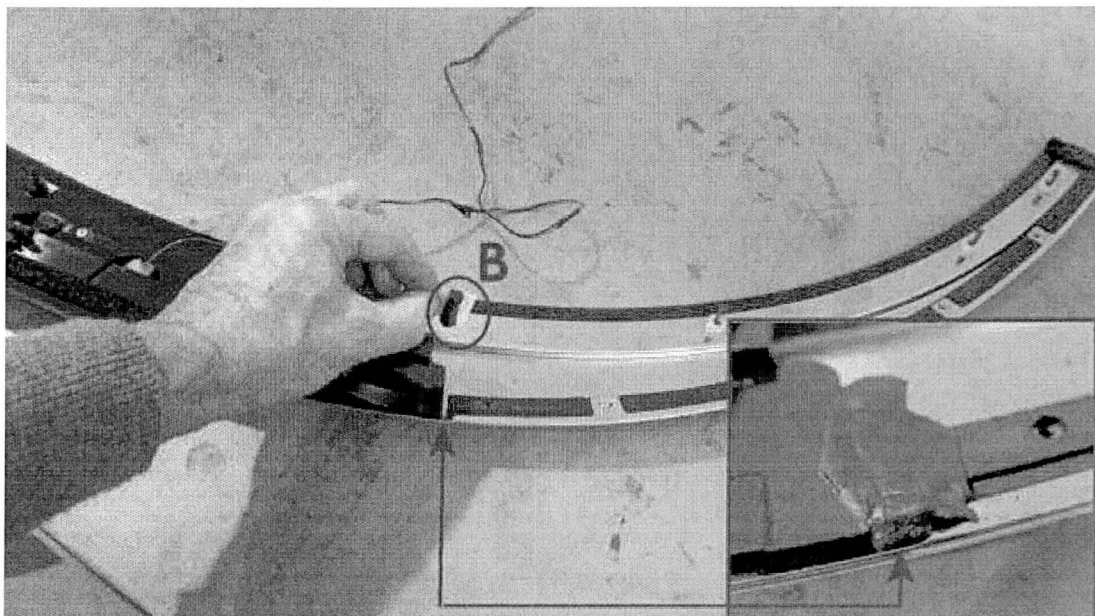

Figure 3
4. Cut two 15mm length of butyl seal from the roll (part number 3W7854546) manipulate these cut lengths of butyl seal (B) into the two slots adjacent to either side of the stop lamp housing to produce a water tight seal and bridge the gap (see Figure 3 and 3a)